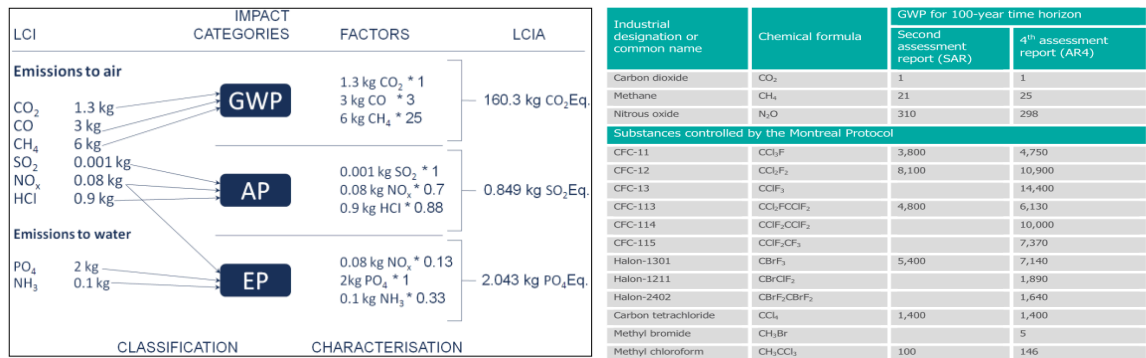

Fig. 2. Life Cycle Impacts Analysis steps and a few impact factors for CO₂ Eq.
3. **Impact assessment phase.** The 3rd phase of LCA is also known as Life Cycle Impact Analysis (LCIA). LCI results allow you to calculate the LCIA of the system. LCIA identifies and evaluates the amounts and significance of the potential environmental impacts of the product system. LCIA answers the question: What are the resulting impacts? Calculating is usually done using four steps, where the first two are mandatory. **Fig. 2** describes the steps with example values.